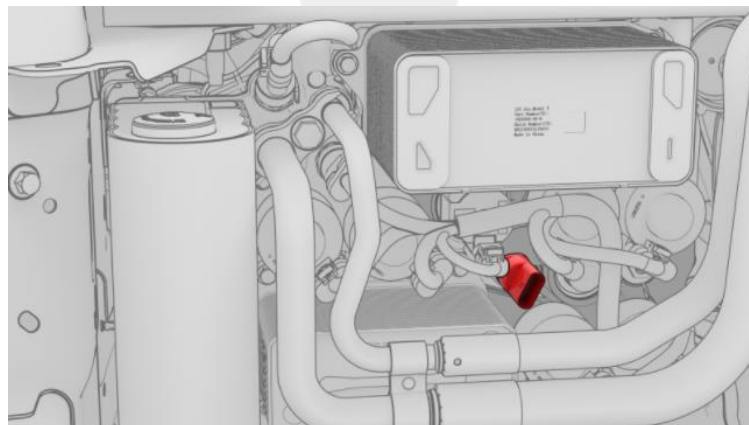

Figure 8
11. Use the HVAC socket kit to remove the subcool high pressure P/T sensor from the Supermanifold (Figure 8).
15. Install the new subcool high pressure P/T sensor (black connector) into the Supermanifold (Figure 8):